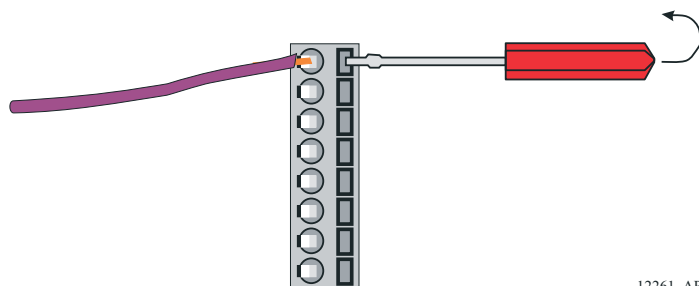

Figure 4-9: Terminal Strip Cable Connections
- L Connect the conductors to the appropriate pins as shown on Table 4-2: Connections for Remote Stations, using a small slotted screwdriver as shown in Figure 4-9: Terminal Strip Cable Connections